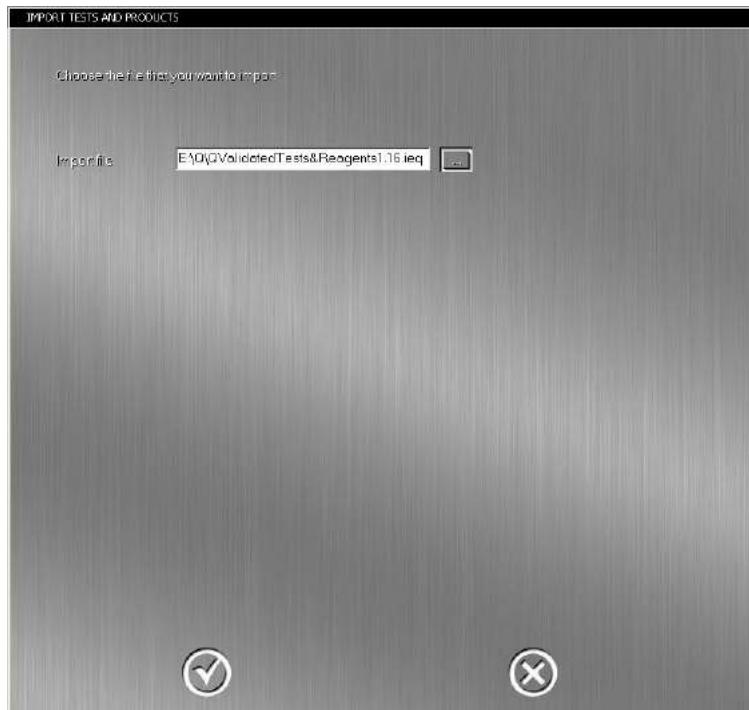

Figure 9.41. Importing New Tests and Products. Step 1
- Browse the file “QValidatedTests&Products_x.y.iq” (e.g. in a **USB data storage device**) and press **Accept** (Figure 9.41).